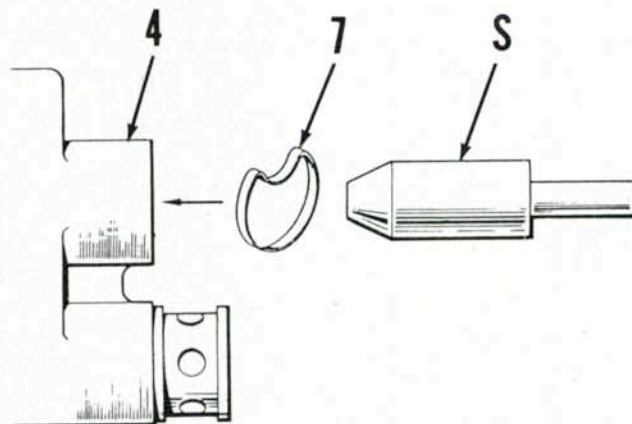

Fig. 348—Slipper seals (7) should be fully seated in coupler housing grooves using a wedge shaped tool (S) prior to installing coupler in housing.
To reassemble, install new seal (12) in coupler and assemble spring, sliding sleeve, gland and retaining ring. Insert actuator into gland. Install two new "O" rings (5) in coupler manifold grooves. Shape the slipper seals (7) as shown in Fig. 348, then install them in manifold grooves. The slipper seals should be stretched slightly before installing coupler to prevent damage to seals. A wedge shaped tool (S—Fig. 348) of suitable size may be inserted into bore of manifold to stretch the seals and fully seat them in manifold grooves. Lubricate coupler assembly, then carefully insert into manifold. Tighten sleeve to a torque of 60 ft.-lbs. (82 N·m). Install coupler handle, washers and snap ring.